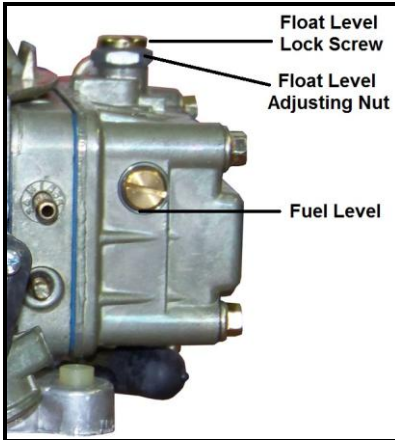

Figure 12
4. Observe the sight plug for the fuel level. If none is seen, the level is too low. If it is higher than the bottom of the sight window, it is too high. **NOTE:** A properly set float level will have the fuel level located at the bottom edge of the sight window, as shown by the line in Figure 12.